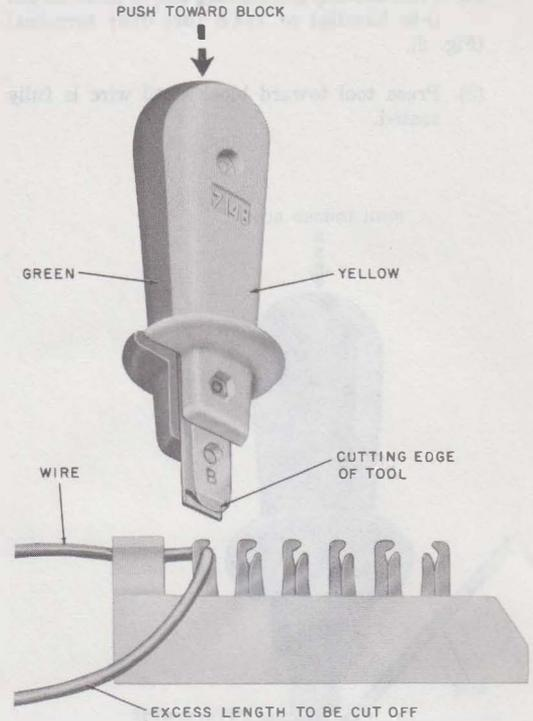

Fig. 7—Preparation for Making Ended Termination
3.07 To make an ended termination (Fig. 7 and 8) using the 714B tool, observe the following procedure.